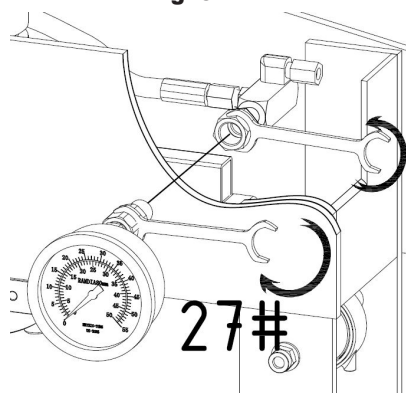

Fig. 06
- Assemble the nylon ring to gauge fitting, then put the pressure gauge and twist tight. (Fig. 06)